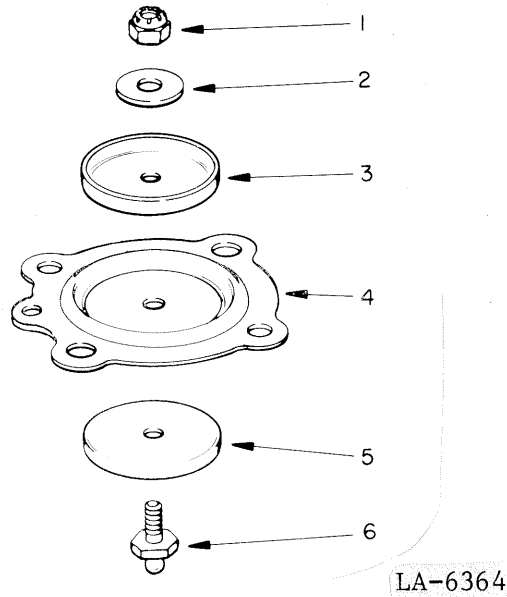

Figure 2.
- (4) Assemble together parts (1 through 6, figure 2) of this directive and tighten nut (1) to a torque value of 5-7 inch-pounds. Retorque to original value after 20 minutes. Retorque only once.
- (5) Reassemble the Fuel Injector as outlined in the affected publication except discard the spring (95) and valve assembly (94) and install the parts assembled in preceding step (4) in place of the diaphragm assembly (98).
- (6) Functionally test the RS-10ED1 Fuel Injector as outlined in the affected publication.